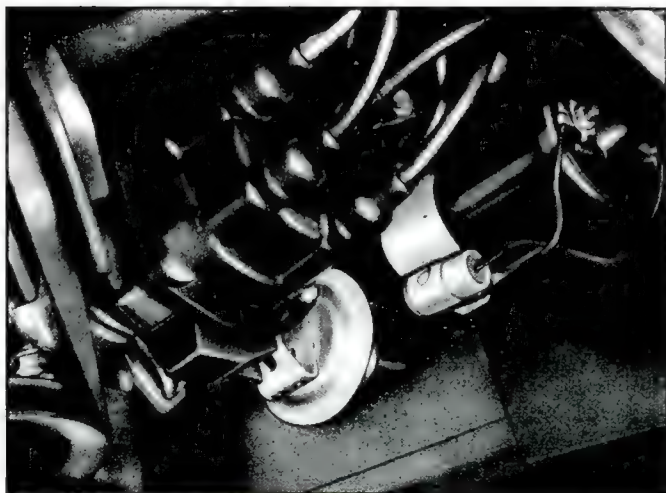

Fig. 5i—Distributor Installed
4. Disconnect vacuum line from vacuum control assembly (retard unit on turbo-charged engines), remove distributor hold-down bolt and clamp, remove distributor from engine. Note position of vacuum advance assembly relative to engine for correct reinstallation (fig. 5i).